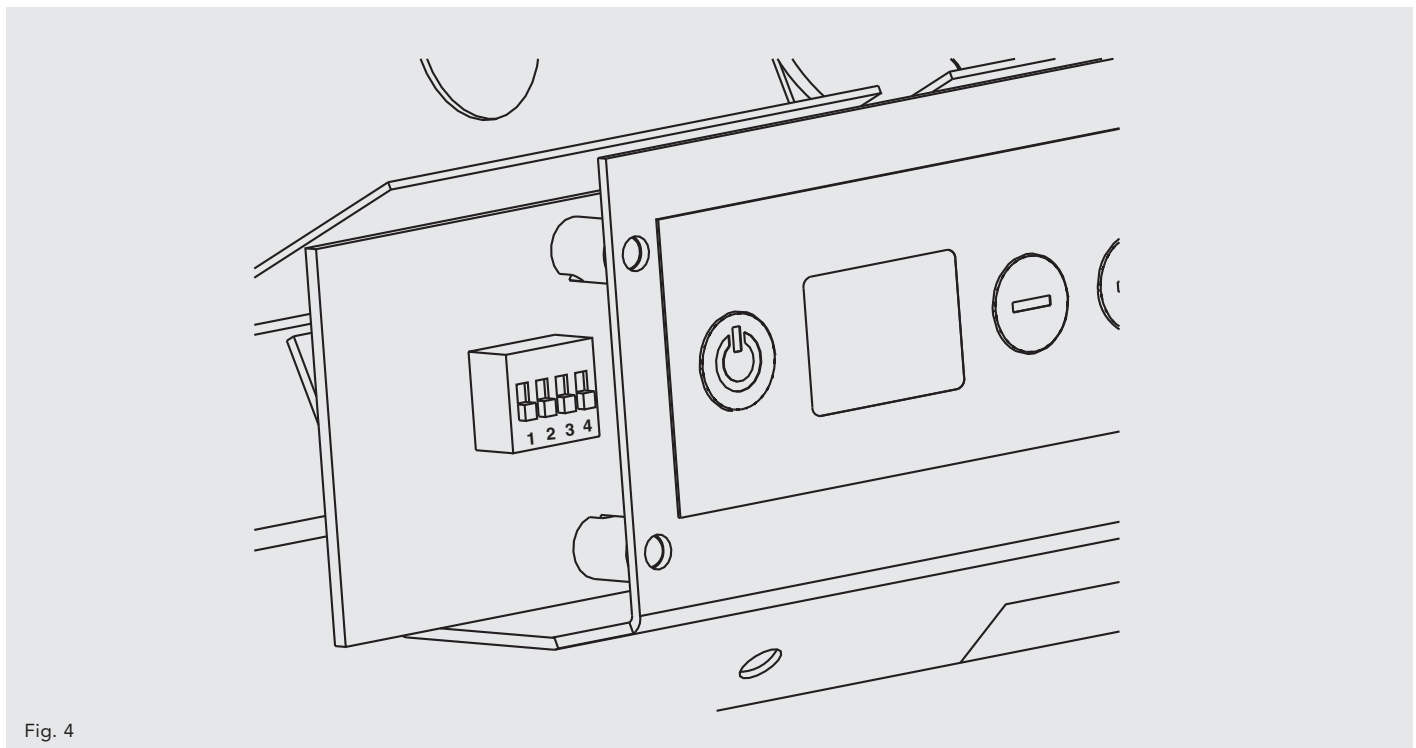

Fig. 4
- Change switch 1 position according to requirements (see fig. 4).